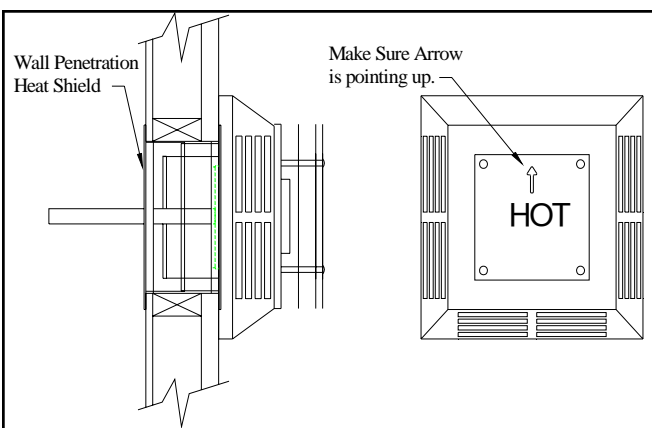
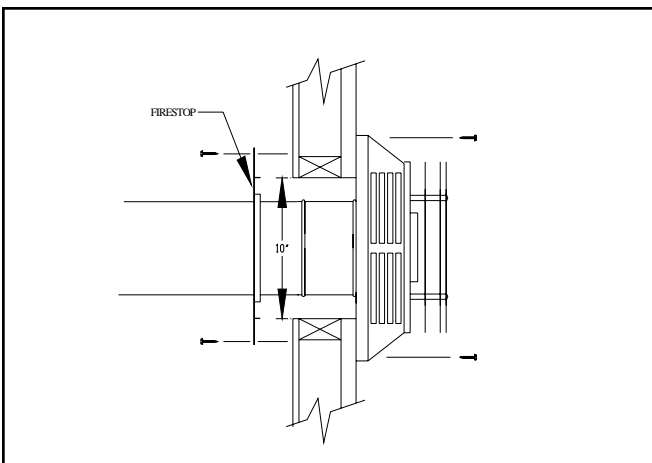

Fig. 13- Termination Orientation
Fig. 14- Anchoring Termination to Wall
5. Carefully slide the vent termination over the vent pipe from the outside and flush it up against the exterior wall. Level the termination cap for appearance sake, making sure the arrow is pointing upward on the termination cap (see fig. 13). Carefully fasten the termination cap to the exterior wall (see fig. 14) using the screws provided in the termination box. You may seal around the termination cap with a quality silicone for insulation purposes.